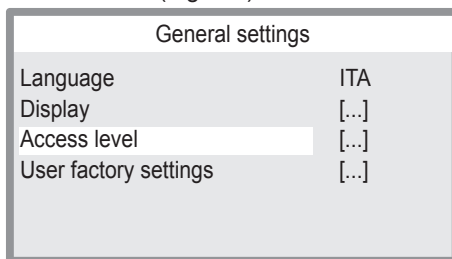

Fig. 8.4
- Press key 13 (Fig. 8.1) to access the selected menu (Fig. 8.4).